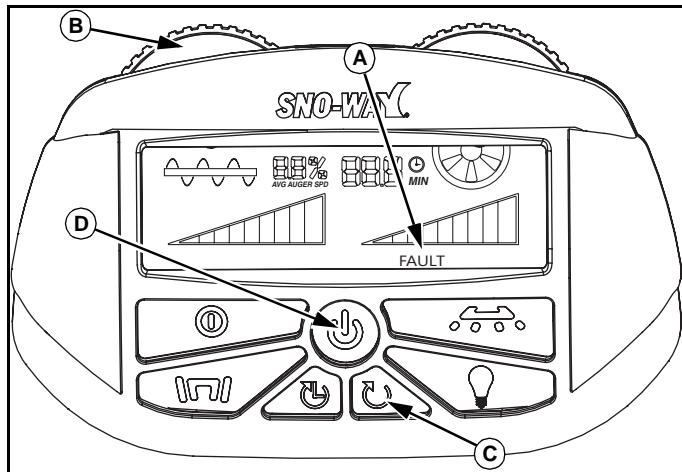

Figure 1-18
When the auger has encountered a jam, the word FAULT (A) will be illuminated on the screen. The left Auger Dial (B), Power Button (D), and Reset Fault Button (C) will flash red. The graph will disappear and the auger will begin to rotate backwards and forward. Also, the vibrator, wetting system, and light will stop running until the jam is released. If the jam is released, the spreader will resume its prior operation. If the jam has not released after four cycles, the unit will beep, and stop functioning. The word FAULT (A) will remain illuminated on the screen. The Auger Dial and Fault Reset button will flash red, while the Power button will be solid red. (See Figure 1-18.)